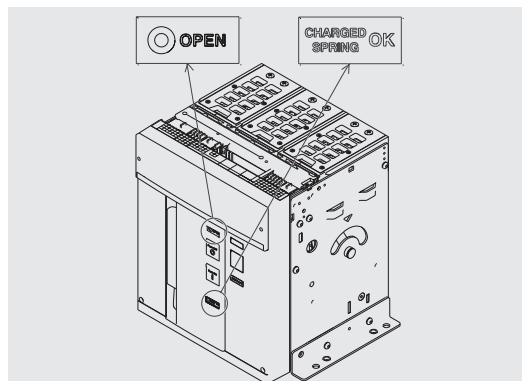

Figure 27
3. Check that the circuit-breaker is open (open/closed signalling device "O - OPEN"), and check that the springs are loaded (springs signalling device "yellow - CHARGED SPRING") as indicated in Figure 27.